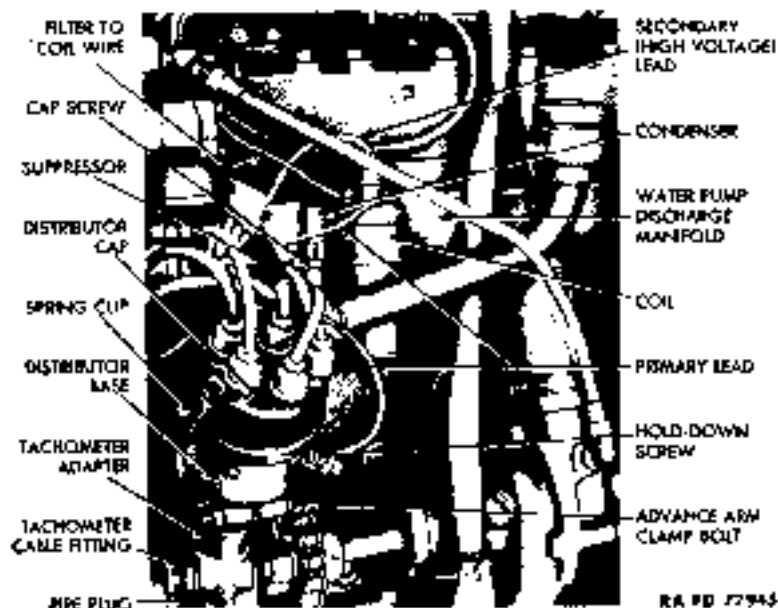

Figure 44 — Distributor and Ignition Coil Installed
(1) **DESCRIPTION** (fig. 44). An induction type coil is used to increase voltage for ignition purposes by use of secondary and primary windings on an iron core. The amperage is cut down in a ratio corresponding with the voltage increase. The coil is attached to the water pump discharge manifold on the left side of the engine adjacent to the front cylinder head, and is accessible through the floor board inset opening.
(2) DISCONNECT WIRES (fig. 44). Pull secondary lead from tower on top of coil. Remove both nuts and lock washers from low tension terminals on top of coil, and lift the three wires from the two terminals. NOTE: Tag wires to aid in assembly.
(3) REMOVE COIL FROM WATER PUMP DISCHARGE MANIFOLD (fig. 44). Remove the two cap screws and lock washers which hold coil to manifold, and lift coil and condenser from manifold.
(1) MOUNT COIL ON ENGINE (fig. 44). Place coil and condenser in position on water pump discharge manifold, and install the two lock washers and cap screws which attach coil and condenser to manifold.
(2) CONNECT WIRES (fig. 44). Place low tension wire from distributor on the coil terminal marked "+." Place low tension wire from
(2) REMOVE DISTRIBUTOR CAP (fig. 44). Unsnap both spring clips, and lift cap from distributor.
(1) DESCRIPTION (fig. 44). The distributor is mounted on left side of engine toward the front, and is accessible through left-hand splash shield opening. Its major components are base, drive shaft and
(1) SET IGNITION TIMING (figs. 44 and 46). Remove No. 1 spark plug and turn the engine over by hand until No. 1 piston comes up on the compression stroke. Continue to turn the engine slowly until the "DC" line on the flywheel registers with the timing line on the flywheel housing. Make sure the distributor points are clean, free of pits, and make good contact when closed. Using a dial indicator or wire feeler gage, adjust the points to 0.020-inch gap. Loosen cap screw and clamp bolt on the distributor advance arm. Move the pointer on the advance arm to the center of the scale, and lock in this position with screw. With the engine still on dead center, rotate the distributor in a counterclockwise direction until the points just break. Use a test light in checking this setting. Lock the clamp bolt after the setting is complete. See that the rotor brush is in position. Replace the
(2) **DISCONNECT WIRES** (fig. 44). Unsnap both spring clips, and lift distributor cap from distributor. Leave high tension wires attached to cap, and disconnect low tension primary lead wire from terminal on side of distributor.
(3) **DETACH DISTRIBUTOR** (fig. 44). Loosen advance arm clamp bolt. Remove hold-down screw, and lift distributor from tachometer adapter.
(1) **ATTACH DISTRIBUTOR TO TACHOMETER DRIVE** (fig. 44). Insert base of distributor into its boss in tachometer drive, and install hold-down screw.
(2) **TIME IGNITION** (subpar. b (1), above).
(3) **CONNECT WIRES** (fig. 44). Connect low tension primary wire to terminal on side of distributor, and install cap with attached wires on distributor.